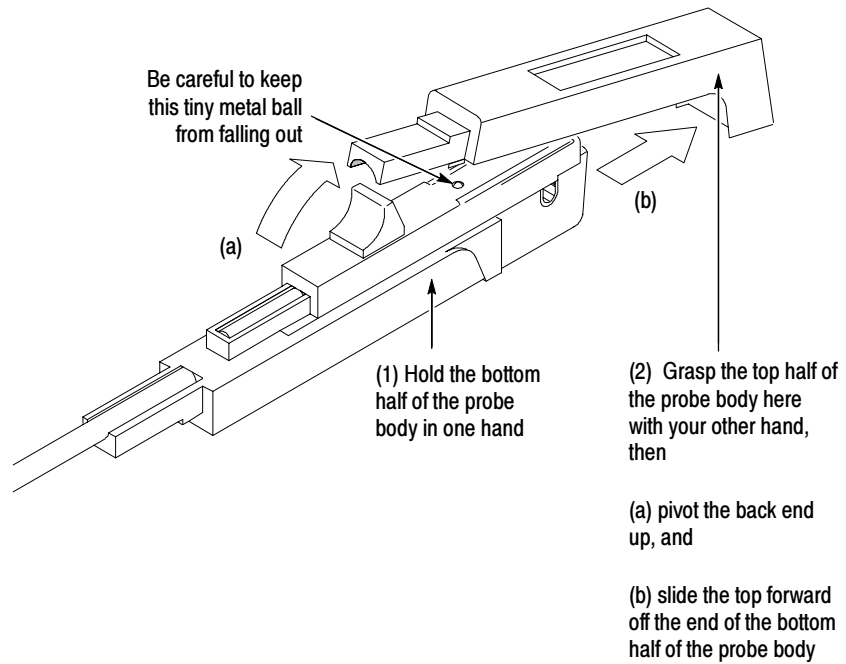

Figure 13: Removing the top half of the probe
3. Hold the probe in a top-up horizontal position and slide the top half of the probe body off as shown in Figure 13.